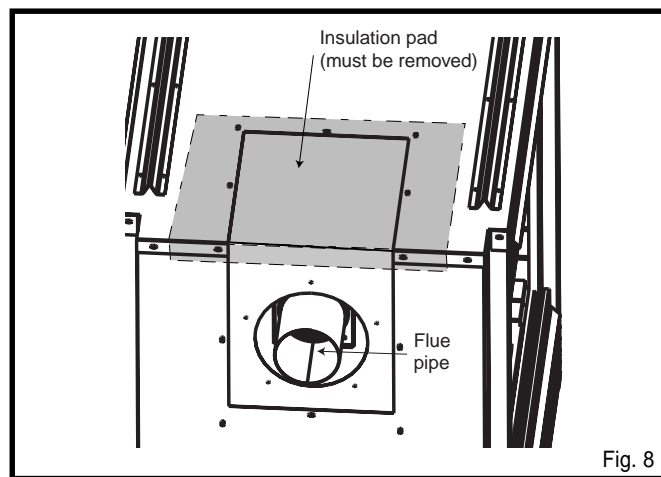

Fig. 10 Remove flue cover and pipe
3. Remove the insulation material (exposed in step 2) from the top of the unit (Fig. 10). This material can be discarded; however, if the unit is converted back to rear-vent, a new piece of insulation material approved by Vermont Castings, Majestic Products must be used for this purpose.